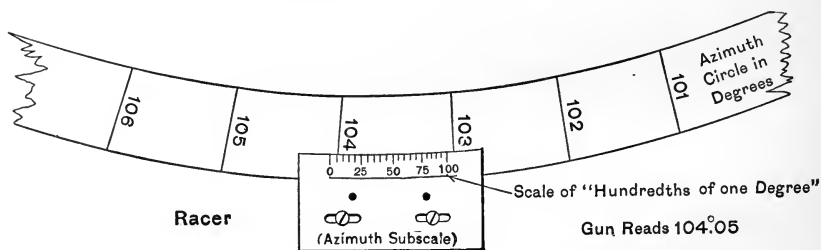

FIG. 30.
A. Traverse the gun until the mark on the indicator-plate representing the number of hundredths is opposite the mark on the azimuth circle representing the number of degrees. In Fig. 30 the gun is set at  $104^{\circ}.05$ .